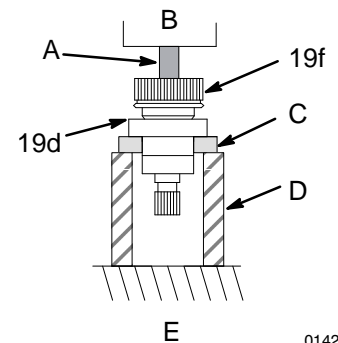

Fig. 22
4. **Using a hydraulic press,** place pieces of steel bar stock on the inner race of the large bearing (19d) and press the shaft through the hub and bearing. See Fig. 22.